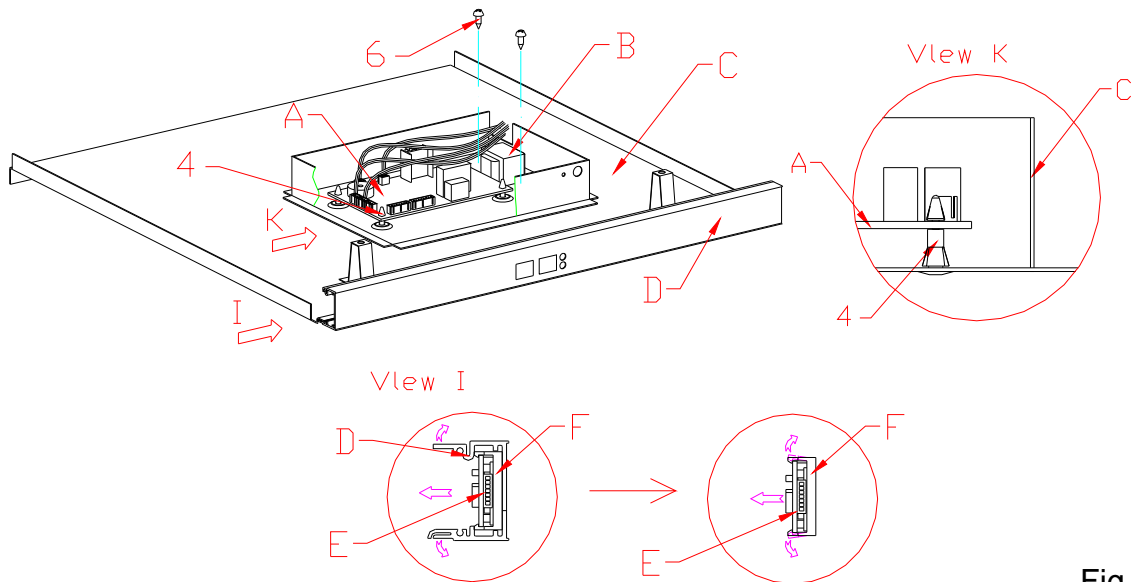

Fig. 10
This fault caused by led displayer , just change it will be OK. (→13) (Fig.10 & Fig.10.1)
Please refer Page 13 (Fig.10 & Fig.10.1 ) for how to replace PCB board.
3>. Here is the drawing after remove upper middle air duct board. (→13) ( Fig10& Fig10.1)
4>. Unplug all the connectors, then press the head of each of the four plastic screws (4) one by one, then remove the control board and replace the control board see ( Fig. 10) ( Vlew K )
5>. Remove the two transformer fixing screws (6) and replace the transformer ( Fig. 10)
Pull the four 4 display cover fasteners (D) as per arrowhead direction (Vlew I), and then remove the display board (E) and its two connectors from both sides. Replace the display board. See ( Fig. 10) ( Vlew I )